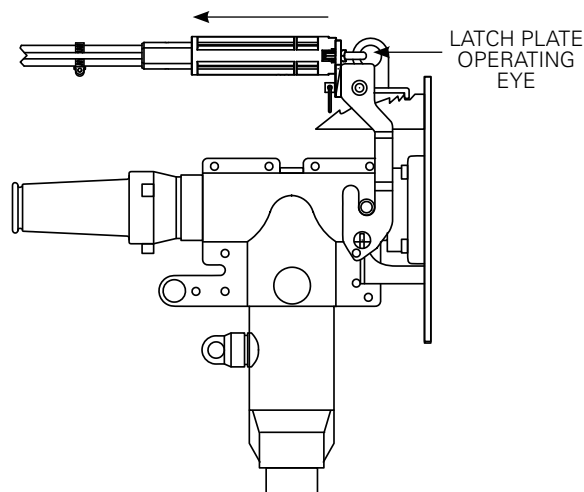

Figure 18e. Verify latch plate engagement.
- If optional locking pin is used, pull on latch plate's operating eye with clampstick to verify latch plate is still engaged in locking teeth after locking pin is tightened. (Refer to Figure 18e.)